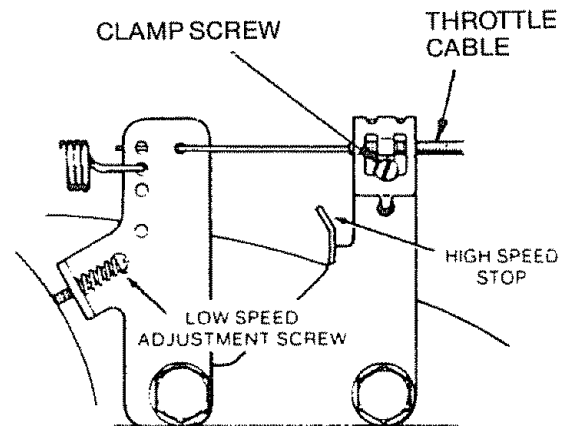

FIGURE 30
- Loosen clamp screw so throttle cable is free to move (Fig. 30).
- Adjust the governor low speed adjustment screw for 1400 RPM idle (Fig. 30).